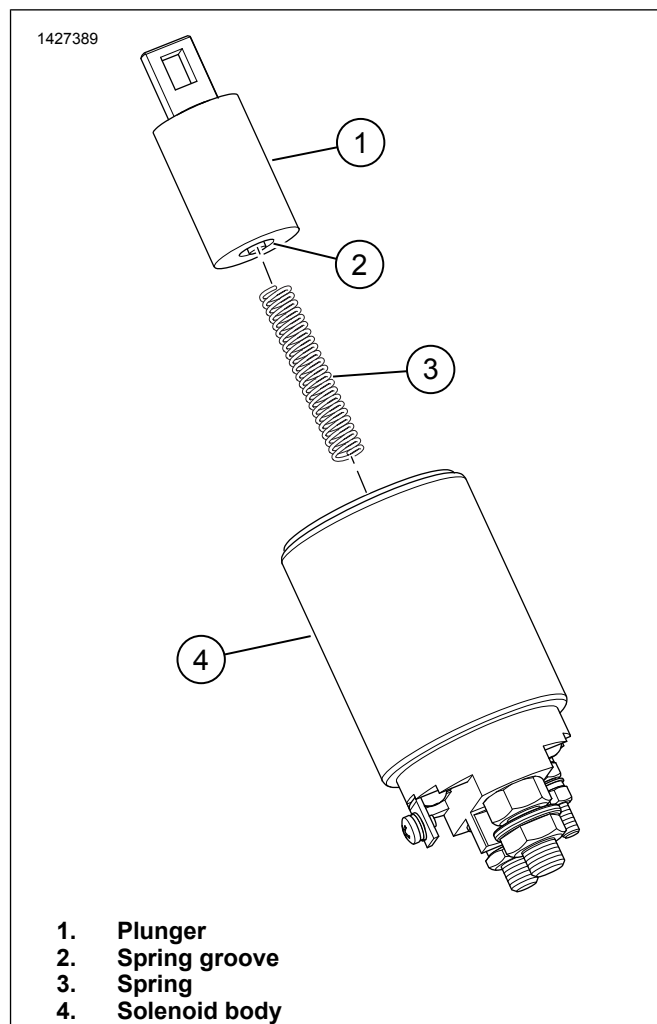
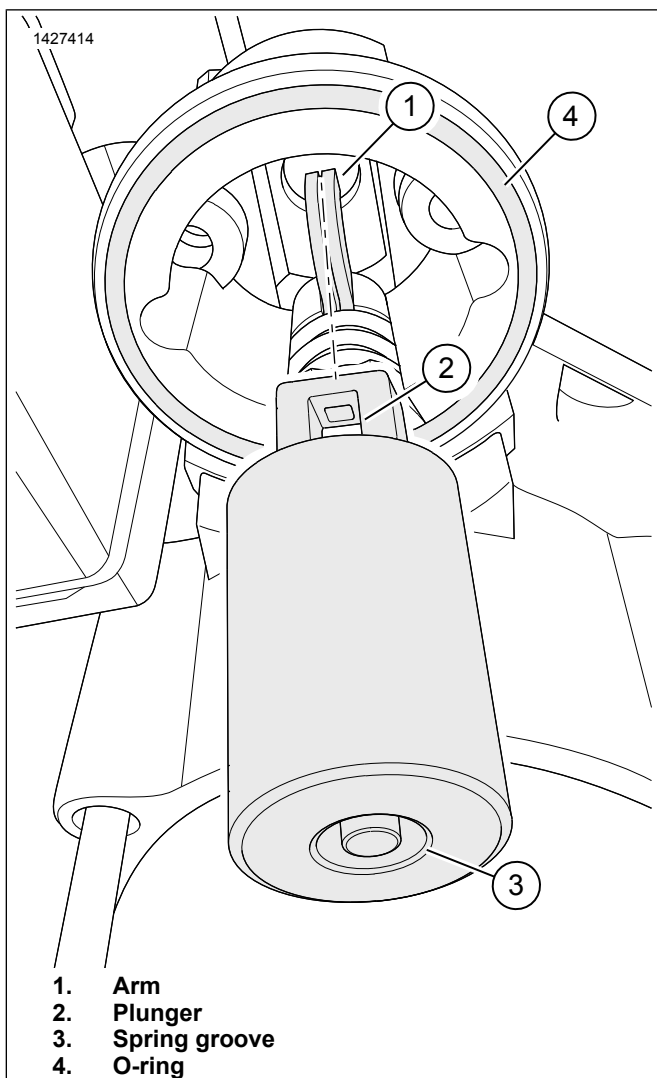

Figure 45. Solenoid Components
Figure 46. Solenoid Plunger Install
1. See Figure 46. Install plunger (2) with slot on arm (1).
2. Install O-ring (4).
3. See Figure 45. Assemble solenoid.